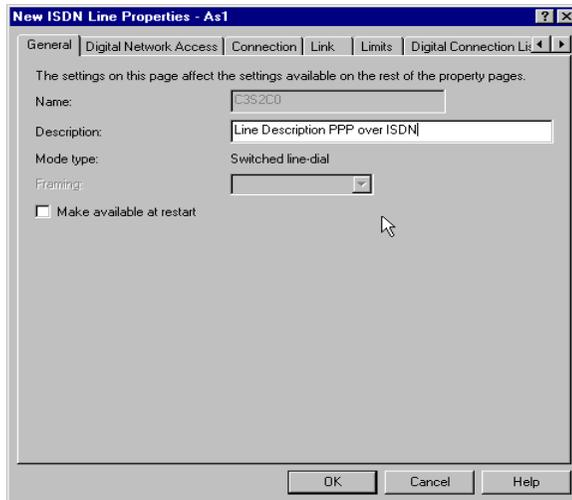

Figure 63. General page to create a new PPP line profile as a switched dial
4. Create a new PPP line over the ISDN (Figure 63 on page 84).